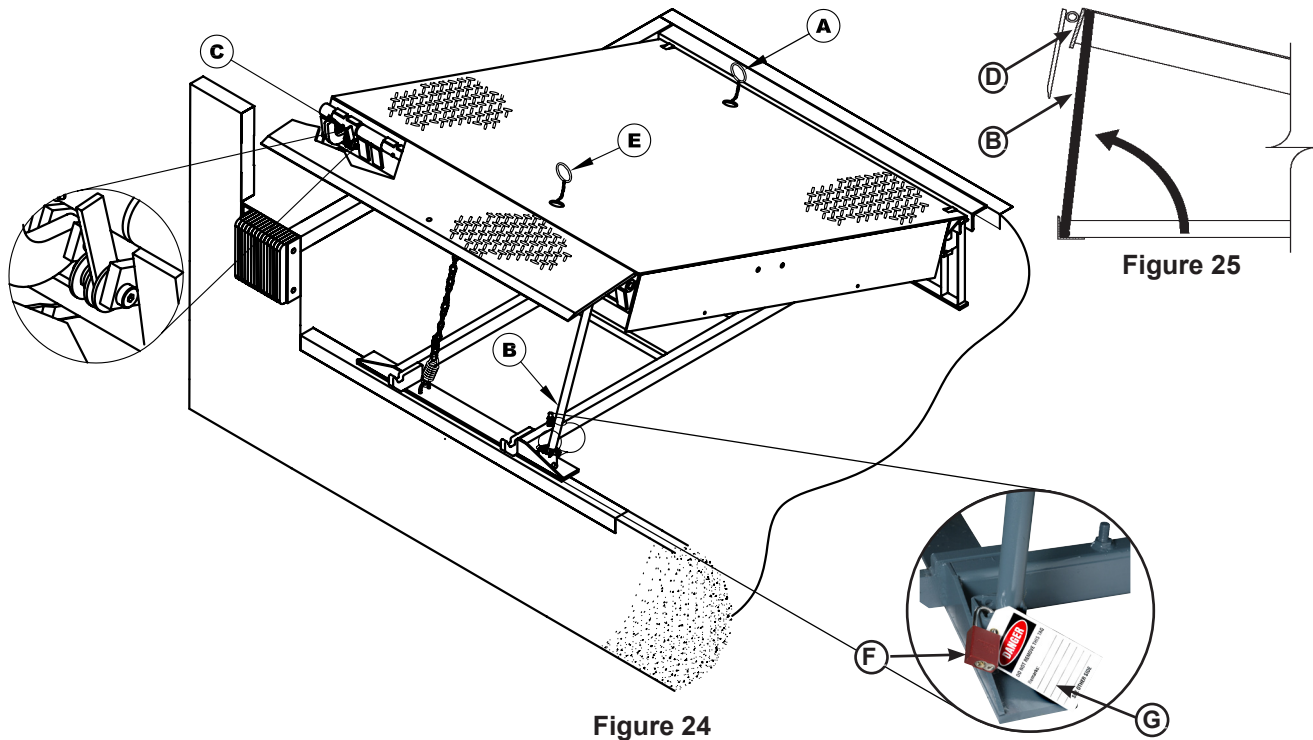

Figure 24
Whenever maintenance is to be performed under the dock leveler platform, support the platform with maintenance prop (B). Position the maintenance prop behind front header plate (D) while staying clear of the lip. Lock the maintenance prop in the service (upright) position using an OSHA approved lockout device\* (F) and tag out device\* (G). See Figures 24 and 25.